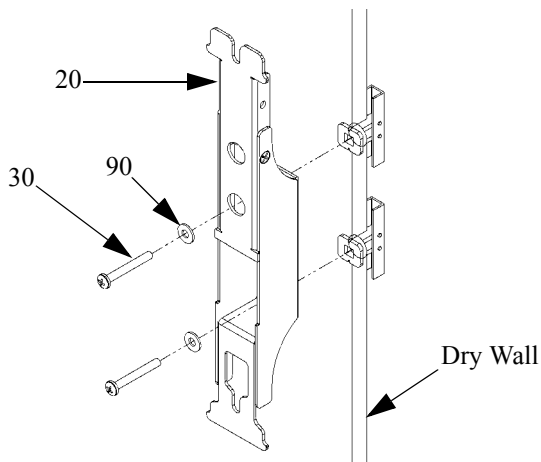

Figure 12. Install Speaker Wall Bracket On Steel Stud / Dry Wall
8. Using two #10 Phillips head screws (30) and two flat washers (90), secure the speaker wall bracket to the wall (see Figure 12).
9. Repeat the procedure to install the second wall bracket (20).